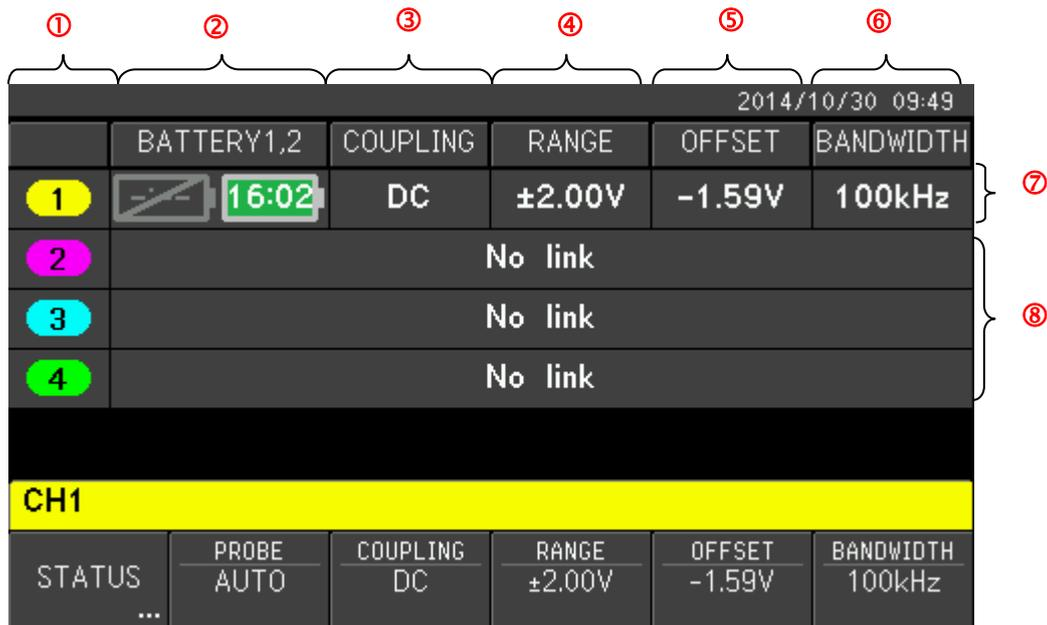

Figure 2.13 Example of normal screen (CH menu)
The readout display area shown in ② of Figure 2.12 is explained in Figure 2.13 and Table 2.8.